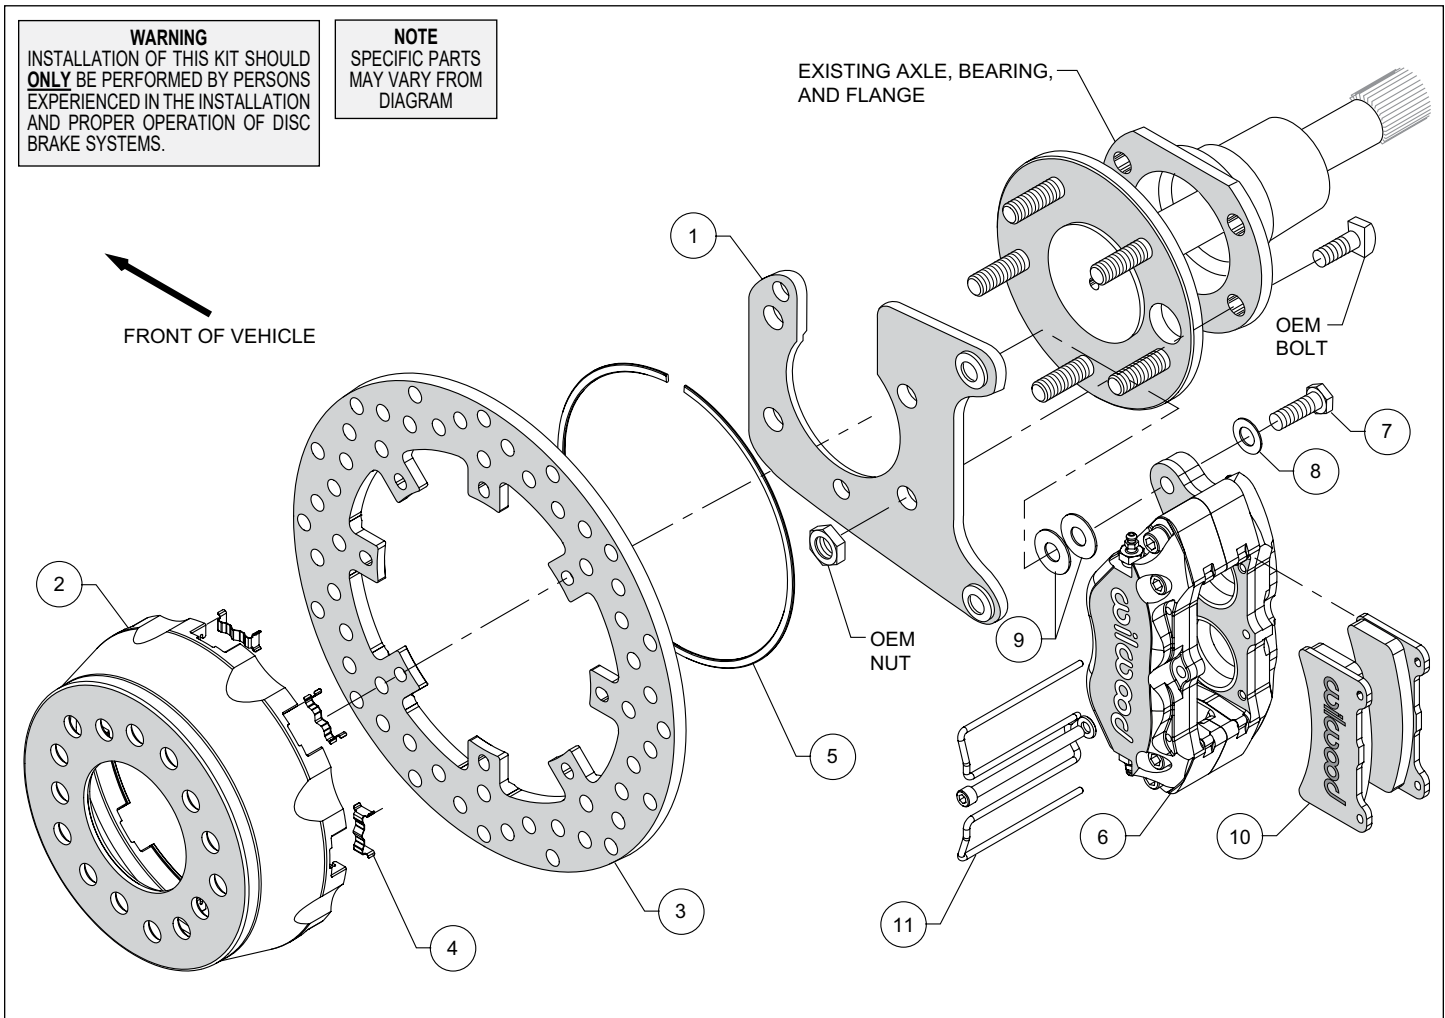
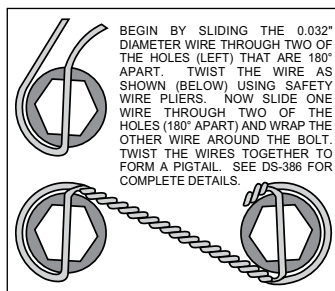

Figure 1. Typical Installation Configuration
Figure 5. Safety Wire Diagram
**Assembly Instructions** (numbers in parenthesis refer to the parts list and Figure 1 on the preceding pages): **CAUTION:** All mounting bolts must fully engage clinch nuts. Be sure to check that all bolts are either flush or protruding through flanged side of clinch nut after shimming, Figure 5.
- Install the caliper mounting bracket (1), with the slot for the axle pointing upward, to the housing flange using the OEM bolts and nuts, as shown in Figure 1 and Photo 1. Ensure that the heads of the clinch nuts are facing outboard, Photo 1. Apply red *Loctite*® 271 to the OEM bolt threads and torque to OEM specifications.
- Insert the dynamic mount wear clips (4) into the slots in the hat (2) making sure the tabs snap in place, Photo 2. Orient the rotor (3) as shown in Figure 1 and Photo 3, with the flush mount tab side facing the hat. Attach the rotor to the hat using snap ring (5) by pushing down on the rotor and installing the ring into the groove in the hat, as shown in Photo 4. Ensure that the ring is fully engaged in the groove.
- Align the correct hole pattern in the hat (2) with the axle stud pattern and slide the hat/rotor assembly onto the axle hub. **NOTE:** The hat must fit flush against the axle flange or excessive rotor run out may result. Install three lug nuts (finger tight) to keep the hat/rotor in place while continuing with the installation. **NOTE:** Some OEM and aftermarket axles come with stud sizes larger than 0.50" diameter. Verify stud size, and if necessary, have a qualified machine shop drill the hats to the correct size.
- NOTE:** Please reference the caution statement at the beginning of the assembly instructions. Mount caliper (6) onto the mounting bracket (1) using bolts (7) and washers (8), as shown in Figure 1. Initially place two .035" thick shims (9) on each bolt between the caliper and the bracket, Photo 5. Temporarily tighten the mounting bolts and view the rotor (3) through the top opening of the caliper. The rotor should be centered in the caliper, Photo 6. If not, adjust the caliper by adding or subtracting shims between the bracket and the caliper. Always use the same amount of shims on each of the two mounting bolts. **NOTE:** The end of each bolt must be flush with or slightly protruding from the head of the clinch nut.
For an added measure of security, the bolts may be safety wired using standard 0.032 inch diameter stainless steel safety wire as shown in Figure 5. Please refer to Wilwood's data sheet DS-386 (available at [www.wilwood.com/Pdf/DataSheets/ds386.pdf](http://www.wilwood.com/Pdf/DataSheets/ds386.pdf)) for complete safety wire installation instructions.